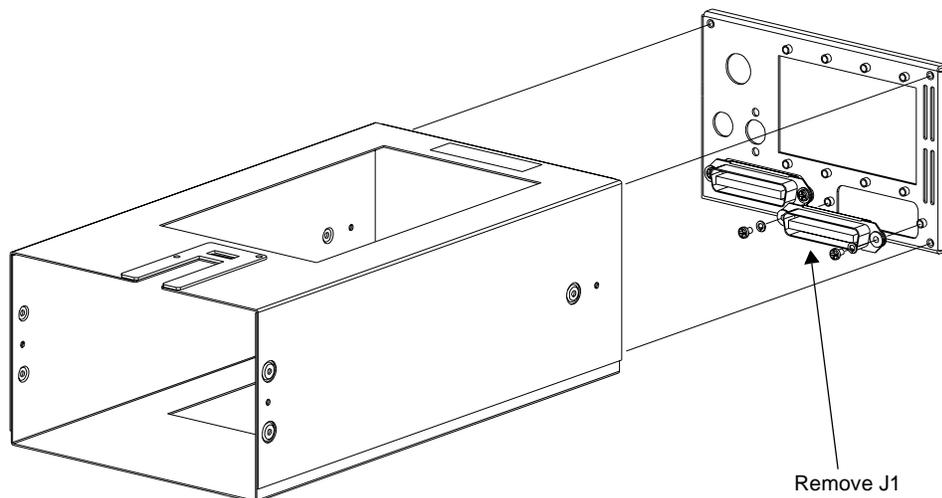

FIGURE 3: FSD Tray
3. Remove connector J1 at the back of the tray (see Figure 3).